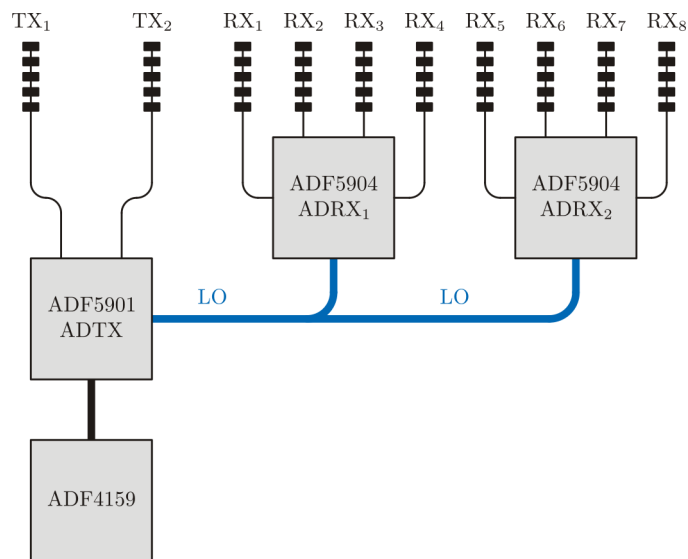

Figure 1: Antenna configuration and naming convention for 24-GHz frontend.
In Fig. 1 the block diagram of the 24-GHz frontend with two transmit (TX) and eight receive (RX) antennas is shown. The transmit antennas are arranged to enable a virtual array with 15 uniformly spaced antenna elements. According to the block diagram, an ADF5901 (VCO and two output channels) in conjunction with the ADF4159 (fractional-N frequency synthesizer) is used to generate the FMCW transmit signal. The two transmit antennas (TX₁ and TX₂) are fed from the power amplifiers of the ADF5901 and can therefore be activated in an arbitrary sequence. The activation sequence can be programmed with the timing unit and the MIMO sequencer implemented in the FPGA of the RadarLog. Therefore, the angular resolution can be increased by sequentially switching between the two transmit antennas. The receive path is realized with two ADF5904 (four-